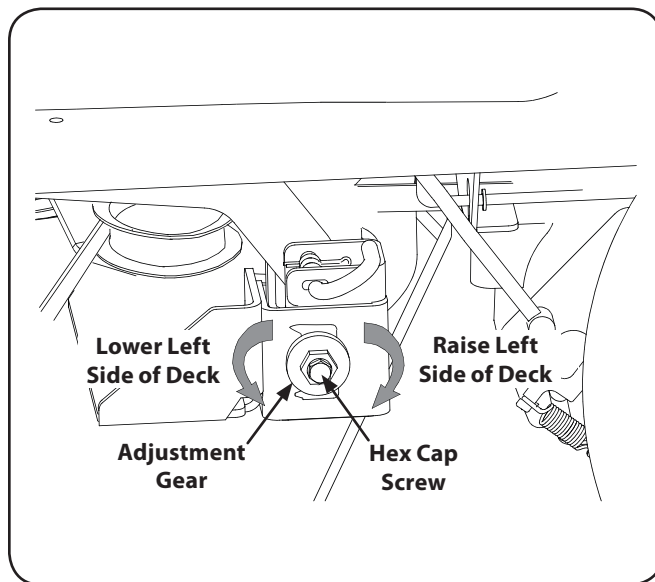

Figure 6-6
6. Loosen, but do not remove, the hex cap screw on the left deck hanger bracket. See Figure 6-6.
7. Level the deck by using a wrench to turn the adjustment gear (found immediately behind the hex cap screw just loosened) clockwise to raise the left side of the deck, or counterclockwise to lower the left side of the deck. See Figure 6-6.